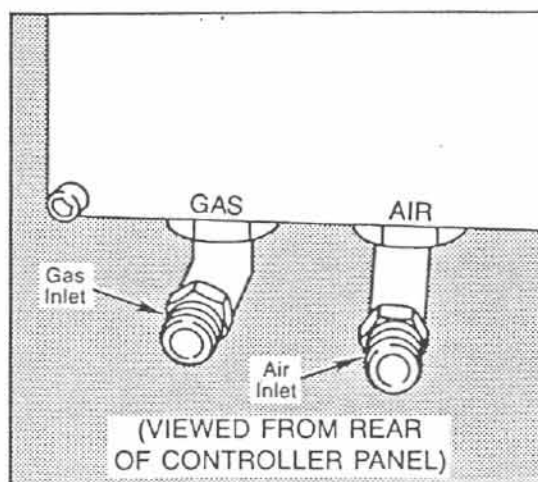

FIGURE 4. AIR/GAS ATTACHMENT FITTINGS
- attach the air supply hose to Air Input Fitting ($\frac{1}{8}$ " and $\frac{1}{4}$ " NPT adapters supplied) located at rear of Controller Panel. If Inert Gas option is present, attach Inert Gas supply hose to the Inert Gas Fitting. (NOTE: Adjust the Inert Gas pressure to 60 psi), refer to Figure 4,